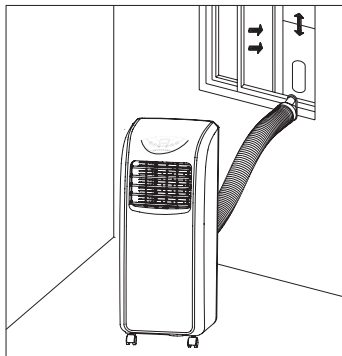

fig. 10
- 2 Attach the flat end of the clutch to the hot blow air hose into the oval opening on the window sealing panel assembly (see Figures 10 and 11).